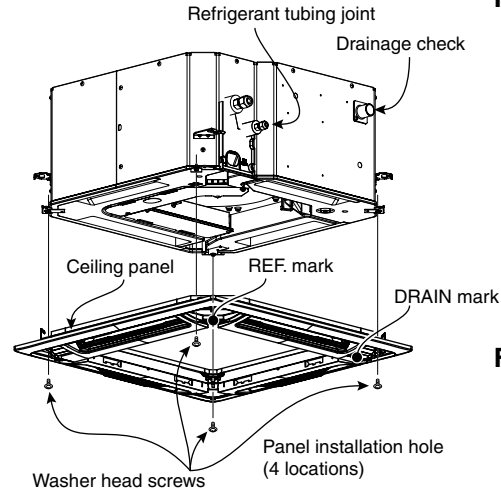

Fig. 3-45
- (2) Align the panel installation holes and the unit screw holes. (Fig. 3-45)
- (3) Tighten the supplied washer head screws at the 4 panel installation locations so that the panel is attached tightly to the unit.